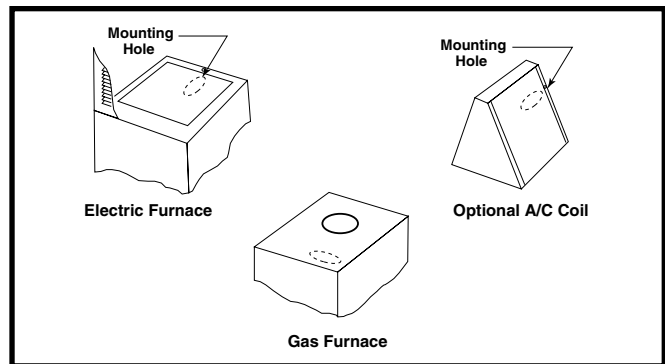

Figure 1. Plastic Inlet Fitting Location
- **Gas Furnace** - Oval knockout located at the top, near the front of the furnace. See Figure 1.
- **Downflow Electric Furnace** - The plastic inlet fitting may be mounted in the rear of the cabinet over the return air filter. When using an optional air conditioning coil, it may be mounted to the front or rear coil end-plate flange using the mounting holes provided. See Figure 1.